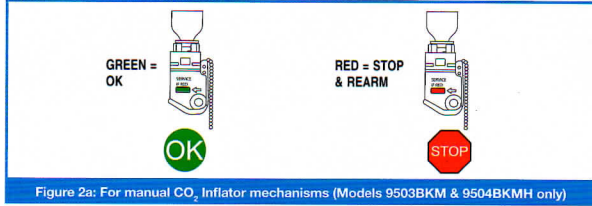

Figure 2a: For manual CO2 Inflation mechanisms (Models 9503BKM & 9504BKM only)
- Single point status indicator is green (Fig. 2a or 2b)
- 3 Examine the single point status indicator (Fig. 2a and 2b) Pg 4. If the indicator is red, the mechanism has been fired and the inflator requires service - see Rearming Your PFD, Pg 9-14.
- 1 Examine the single point status indicator through the window panel (Fig. 2a and 2b) Pg 4. Ensure the indicator is green. If the indicator is red, the mechanism has been fired or is incorrectly fitted - see Rearming Your PFD, Pg 9-14.
vi Ensure the single point status indicator is green (Fig. 2a and 2b) Pg 4.